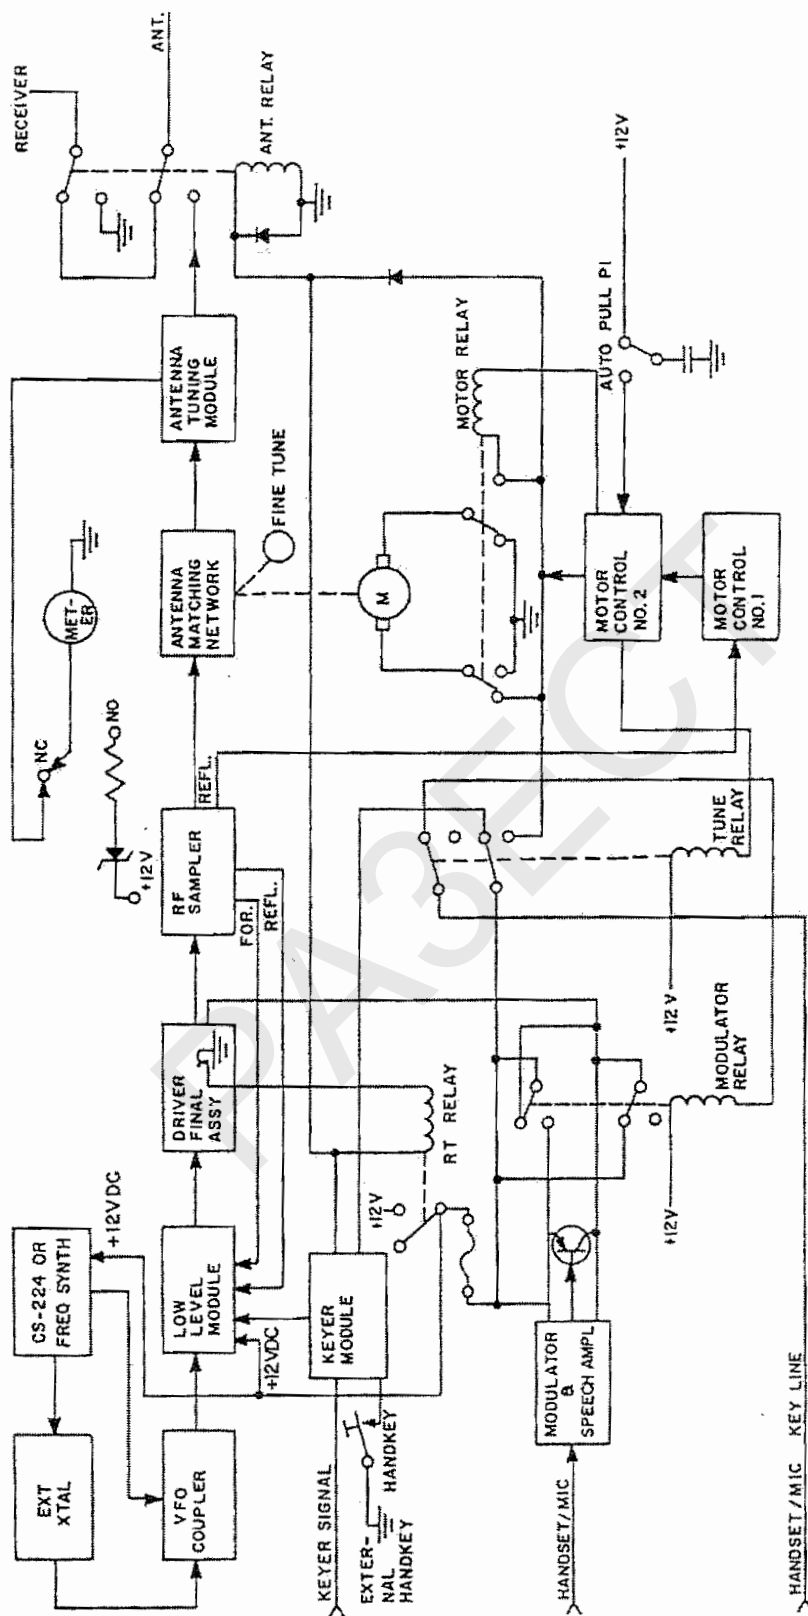

Figure 3-5. RT-224 Block Diagram
- (1) Figure 3-5 Block Diagram
As shown in figure 3-5, input signals in the 2 MHz to 12 MHz frequency range are supplied by the frequency source in use, CS-224, frequency synthesizer, or external crystal CR-18/U. The frequency source signal is fed to the low level module and is shaped and amplified to a sufficient level to drive the push-pull operated driver-final amplifier. The output of the driver-final amplifier is fed to the RF sampler where the forward and reflected power is sensed and its output used to control the output level of the low-level module. The RF signal, through the RF sampler, is coupled to the antenna matching network and then through the antenna tuning module to the antenna. The antenna matching network is coarse-tuned automatically by a motor, however, fine tuning is achieved through a front panel control. Proper tuning is indicated on the front panel TUNE meter.